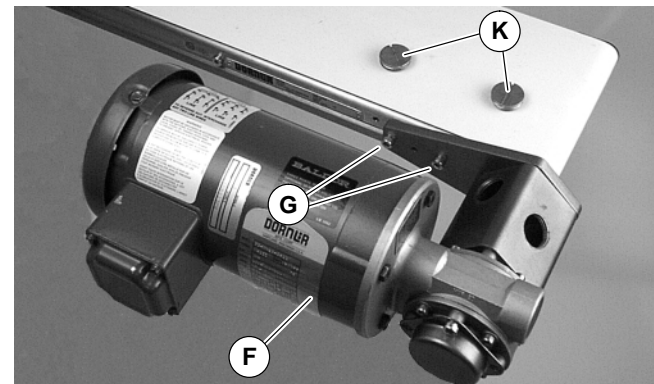

Figure 10
4b. Remove inspection plugs (K of Figure 10).
5b. Slide coupling over drive output shaft and install drive assembly (F of Figure 10) with screws (G). Tighten to 80 in-lb (9 Nm).
7b. Replace inspection plugs. (K of Figure 10).
1. Remove inspection plugs (K of Figure 10).
- 3.** Remove two (2) screws (G of Figure 10). Remove drive assembly (F).